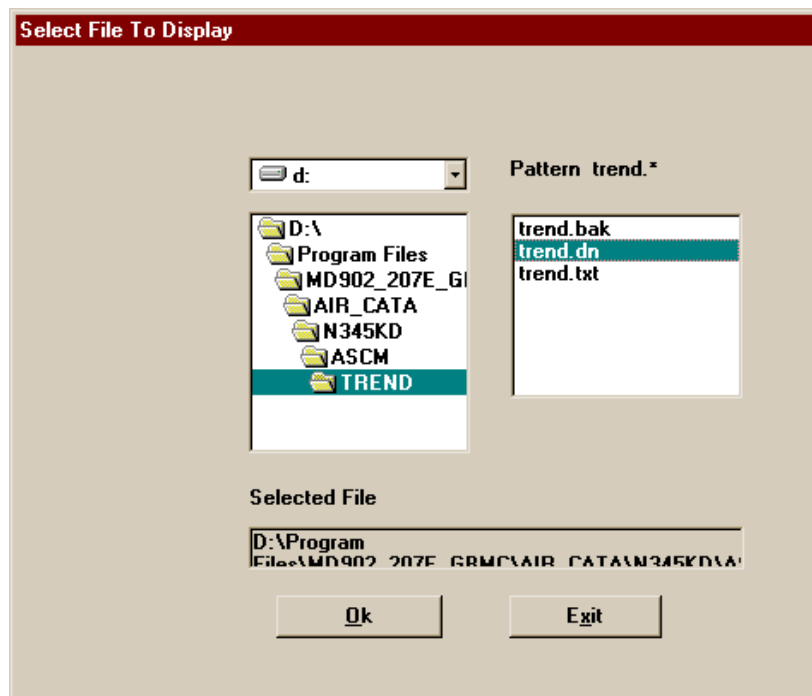

Figure 56. Select Trend Log Screen
5. The GBMC program will automatically select the aircraft Trend Log directory based on the aircraft you selected. Select the trend log file you wish to use (typically "<log file>.dn") and press **OK** (refer to Figure 56).